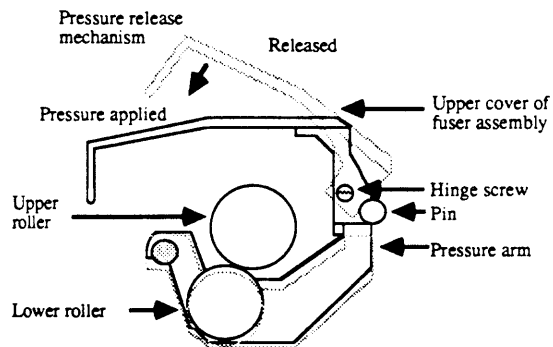

FIGURE 2-22
4. Remove the green cover by removing the two hinge-screws that hold the cover to the fuser (Figure 2-22).